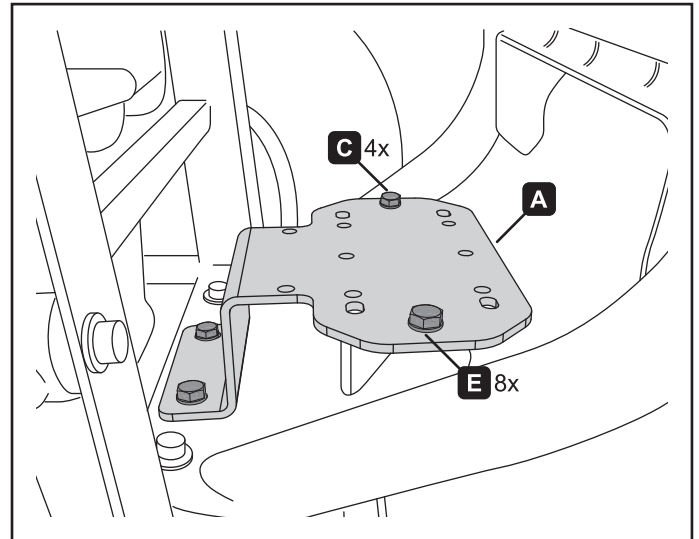

Figure 1.
1. Install the winch mount (A) into the machine with bolts (C), washers (E) and nuts (F) as shown in figure 1.